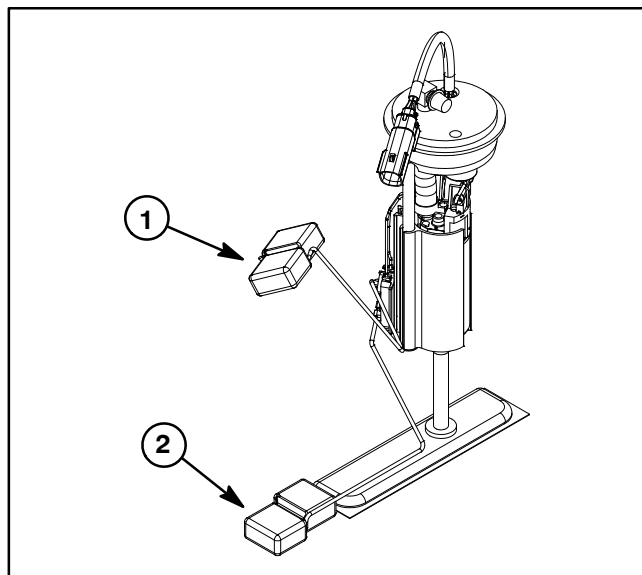

Figure 32
5. Using a multimeter, check that there is a change in resistance of the sender as the float is moved from the empty (completely down) to the full (completely up) position (Fig. 32).